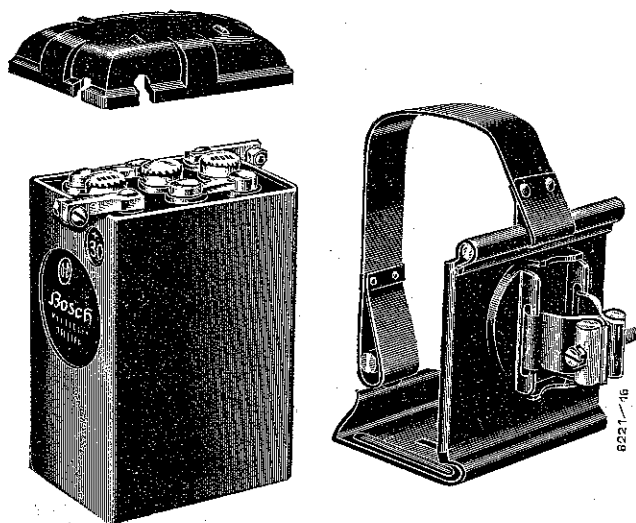

Fig. 10. Battery BGD 312 A with battery carrier
2. Battery BGD 312 A (Fig. 10).